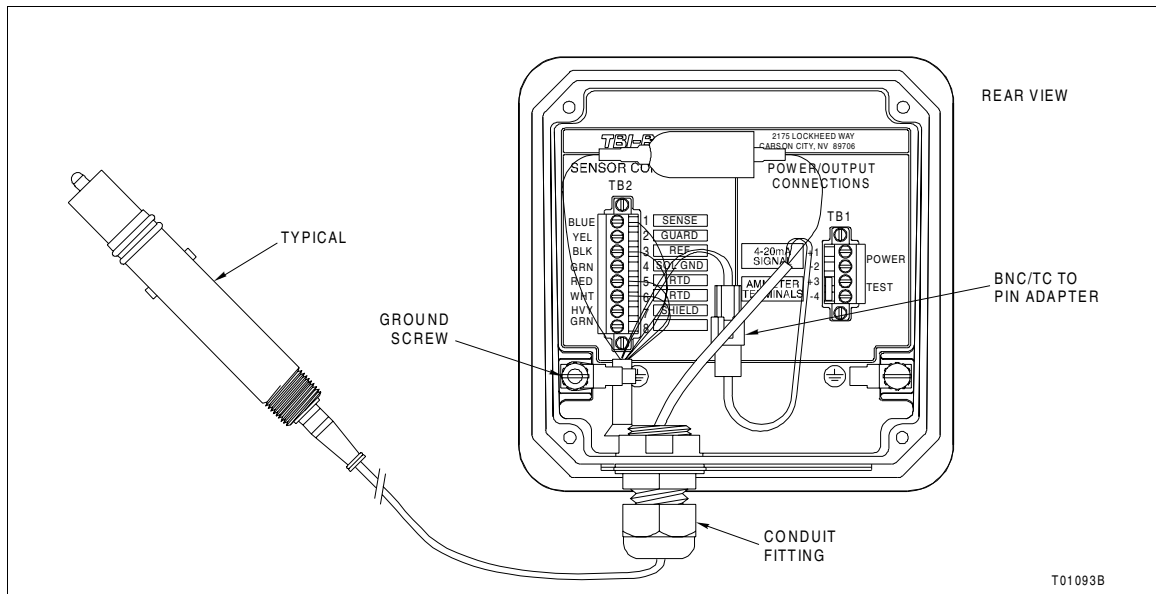

Figure PR6-2. BNC Adapter Sensor Connections
- 2. Use the bladed screwdriver to remove the earth ground screw and associated hardware located below TB2 (Fig. PR6-2).
- 5. Connect the BNC adapter pin terminals to TB2 as shown in Figure PR6-2 and Table PR6-2.